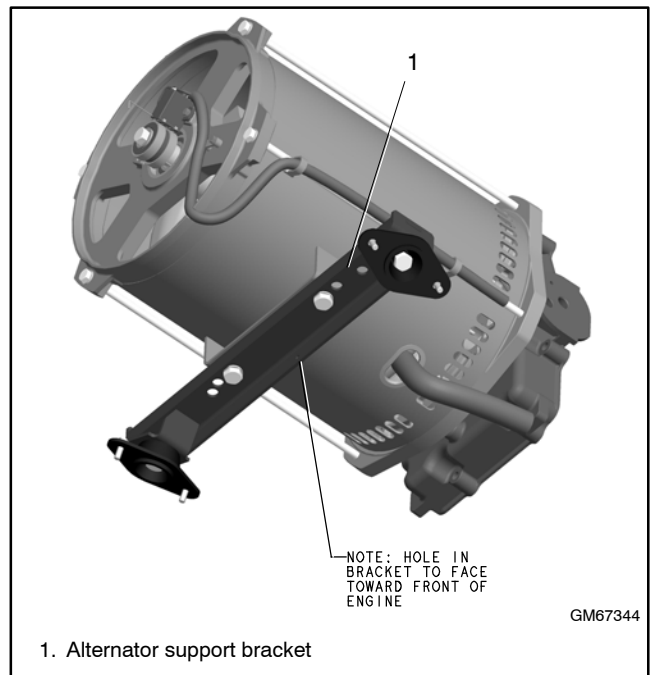

Figure 7-28 Alternator Support Bracket
- a. Re-attach the alternator support bracket to the alternator shell. The hole in the bracket must face the engine. See Figure 7-28.